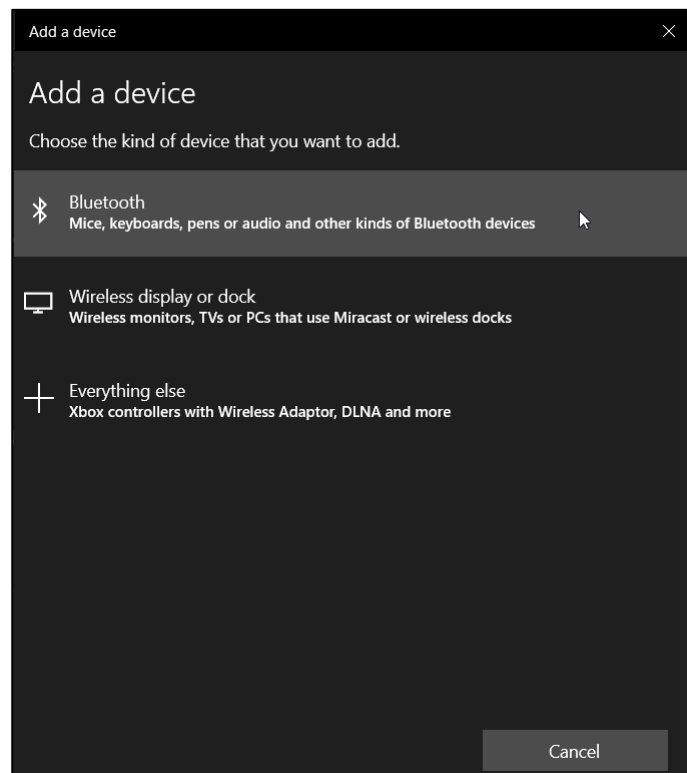

Fig. 4 Selecting the device type in Windows 10.
4. In the new window *"Add device"* select *"Bluetooth"* (Fig. 4).